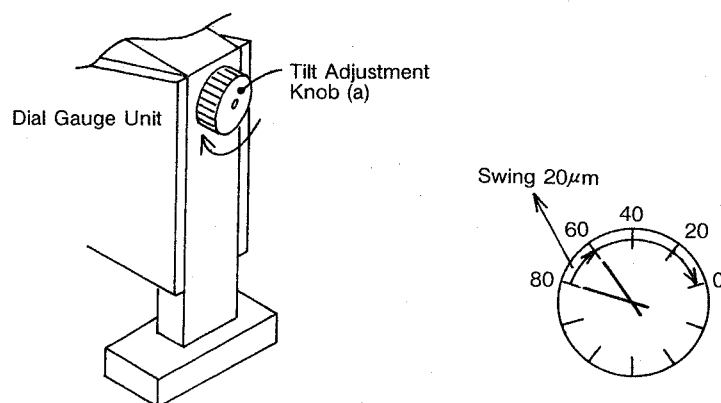

Fig. 7-7-6
- 1) Before installing the Dial Gauge Unit on the base Unit turn Tilt Adjustment Knob (a) clockwise until the meter of dial gauge swings $20\text{ }\mu\text{m}$ as shown in figure 7-7-6.